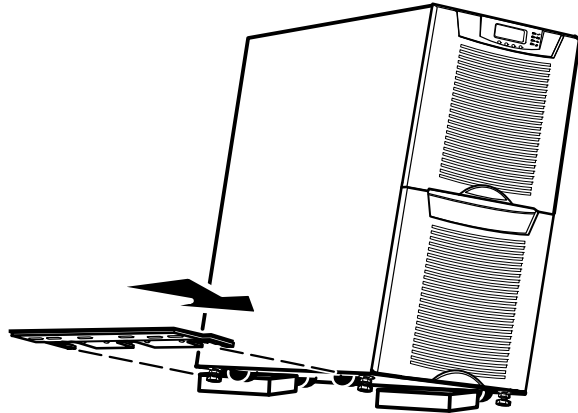

Figure 2. Installing the Base Bracket
6. Slide the base bracket onto the seismic leveling feet above the washer (see Figure 2).